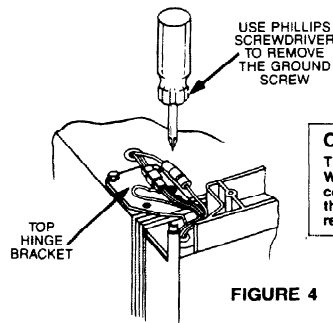

FIGURE 4
6. Disconnect top hinge freezer door wires (see Figure 4).